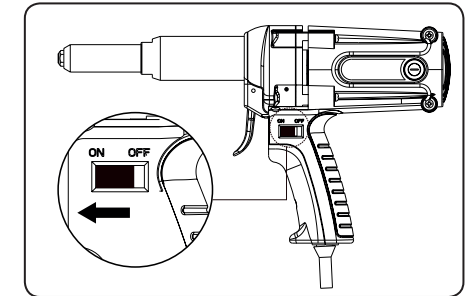

Fig.3
- a) Set the power switch of the rivet gun to the „ON“ position, see fig.3.